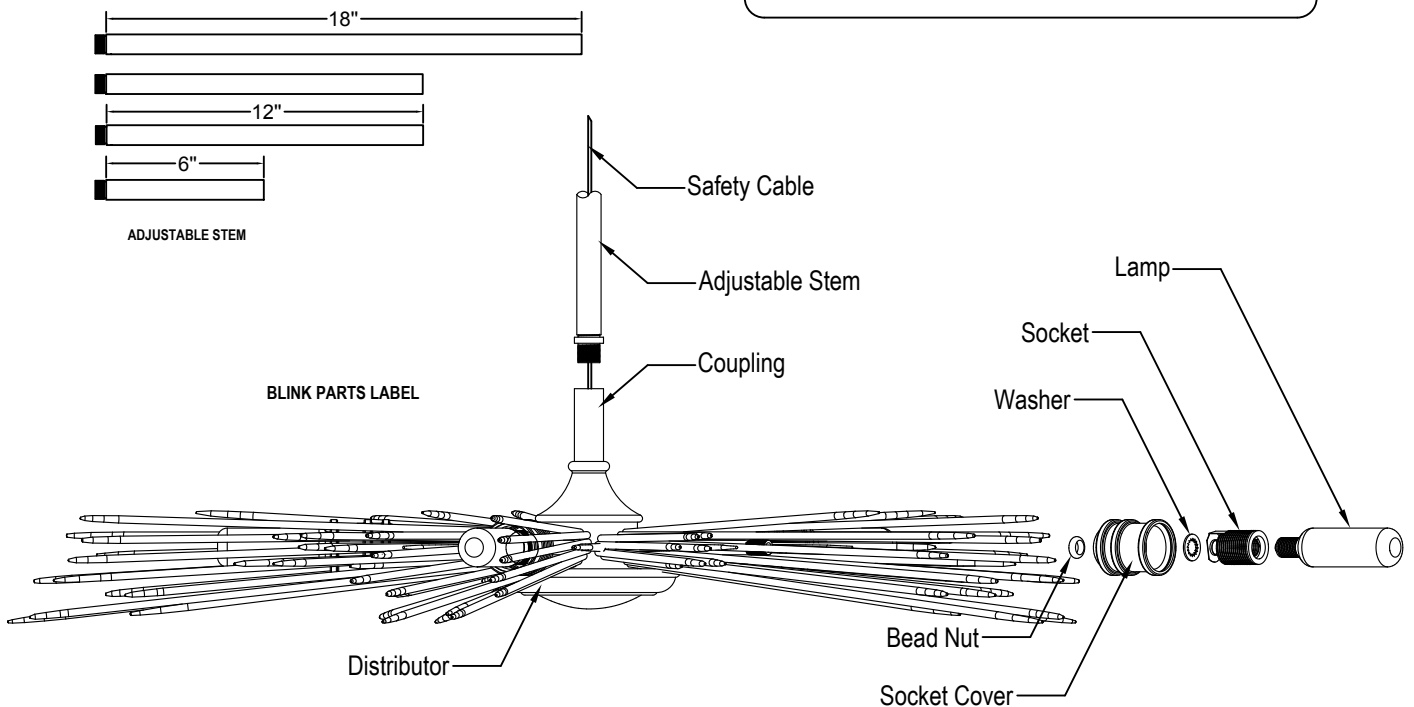

FIGURE-2
- This fixture is supplied with a 4-pcs. stem. There is one 6" section, two 12" section and one 18" section. This feature allows the fixture to be mounted with a stem up to 48" in length in 6" increments (See Figure-2).